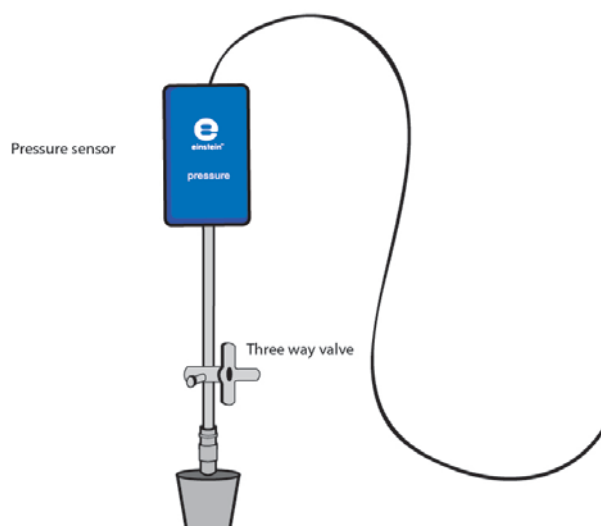

Figure 2
- b. Insert a syringe extender into both stoppers (Figure 2).